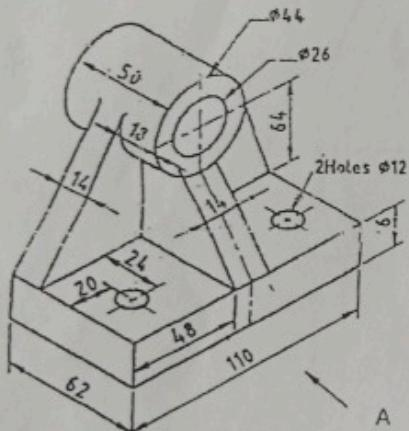

Figure 1
b. Using first angle orthographic projection, draw the front elevation, plan and the left hand side view of the object in Figure 1, viewed from direction A.